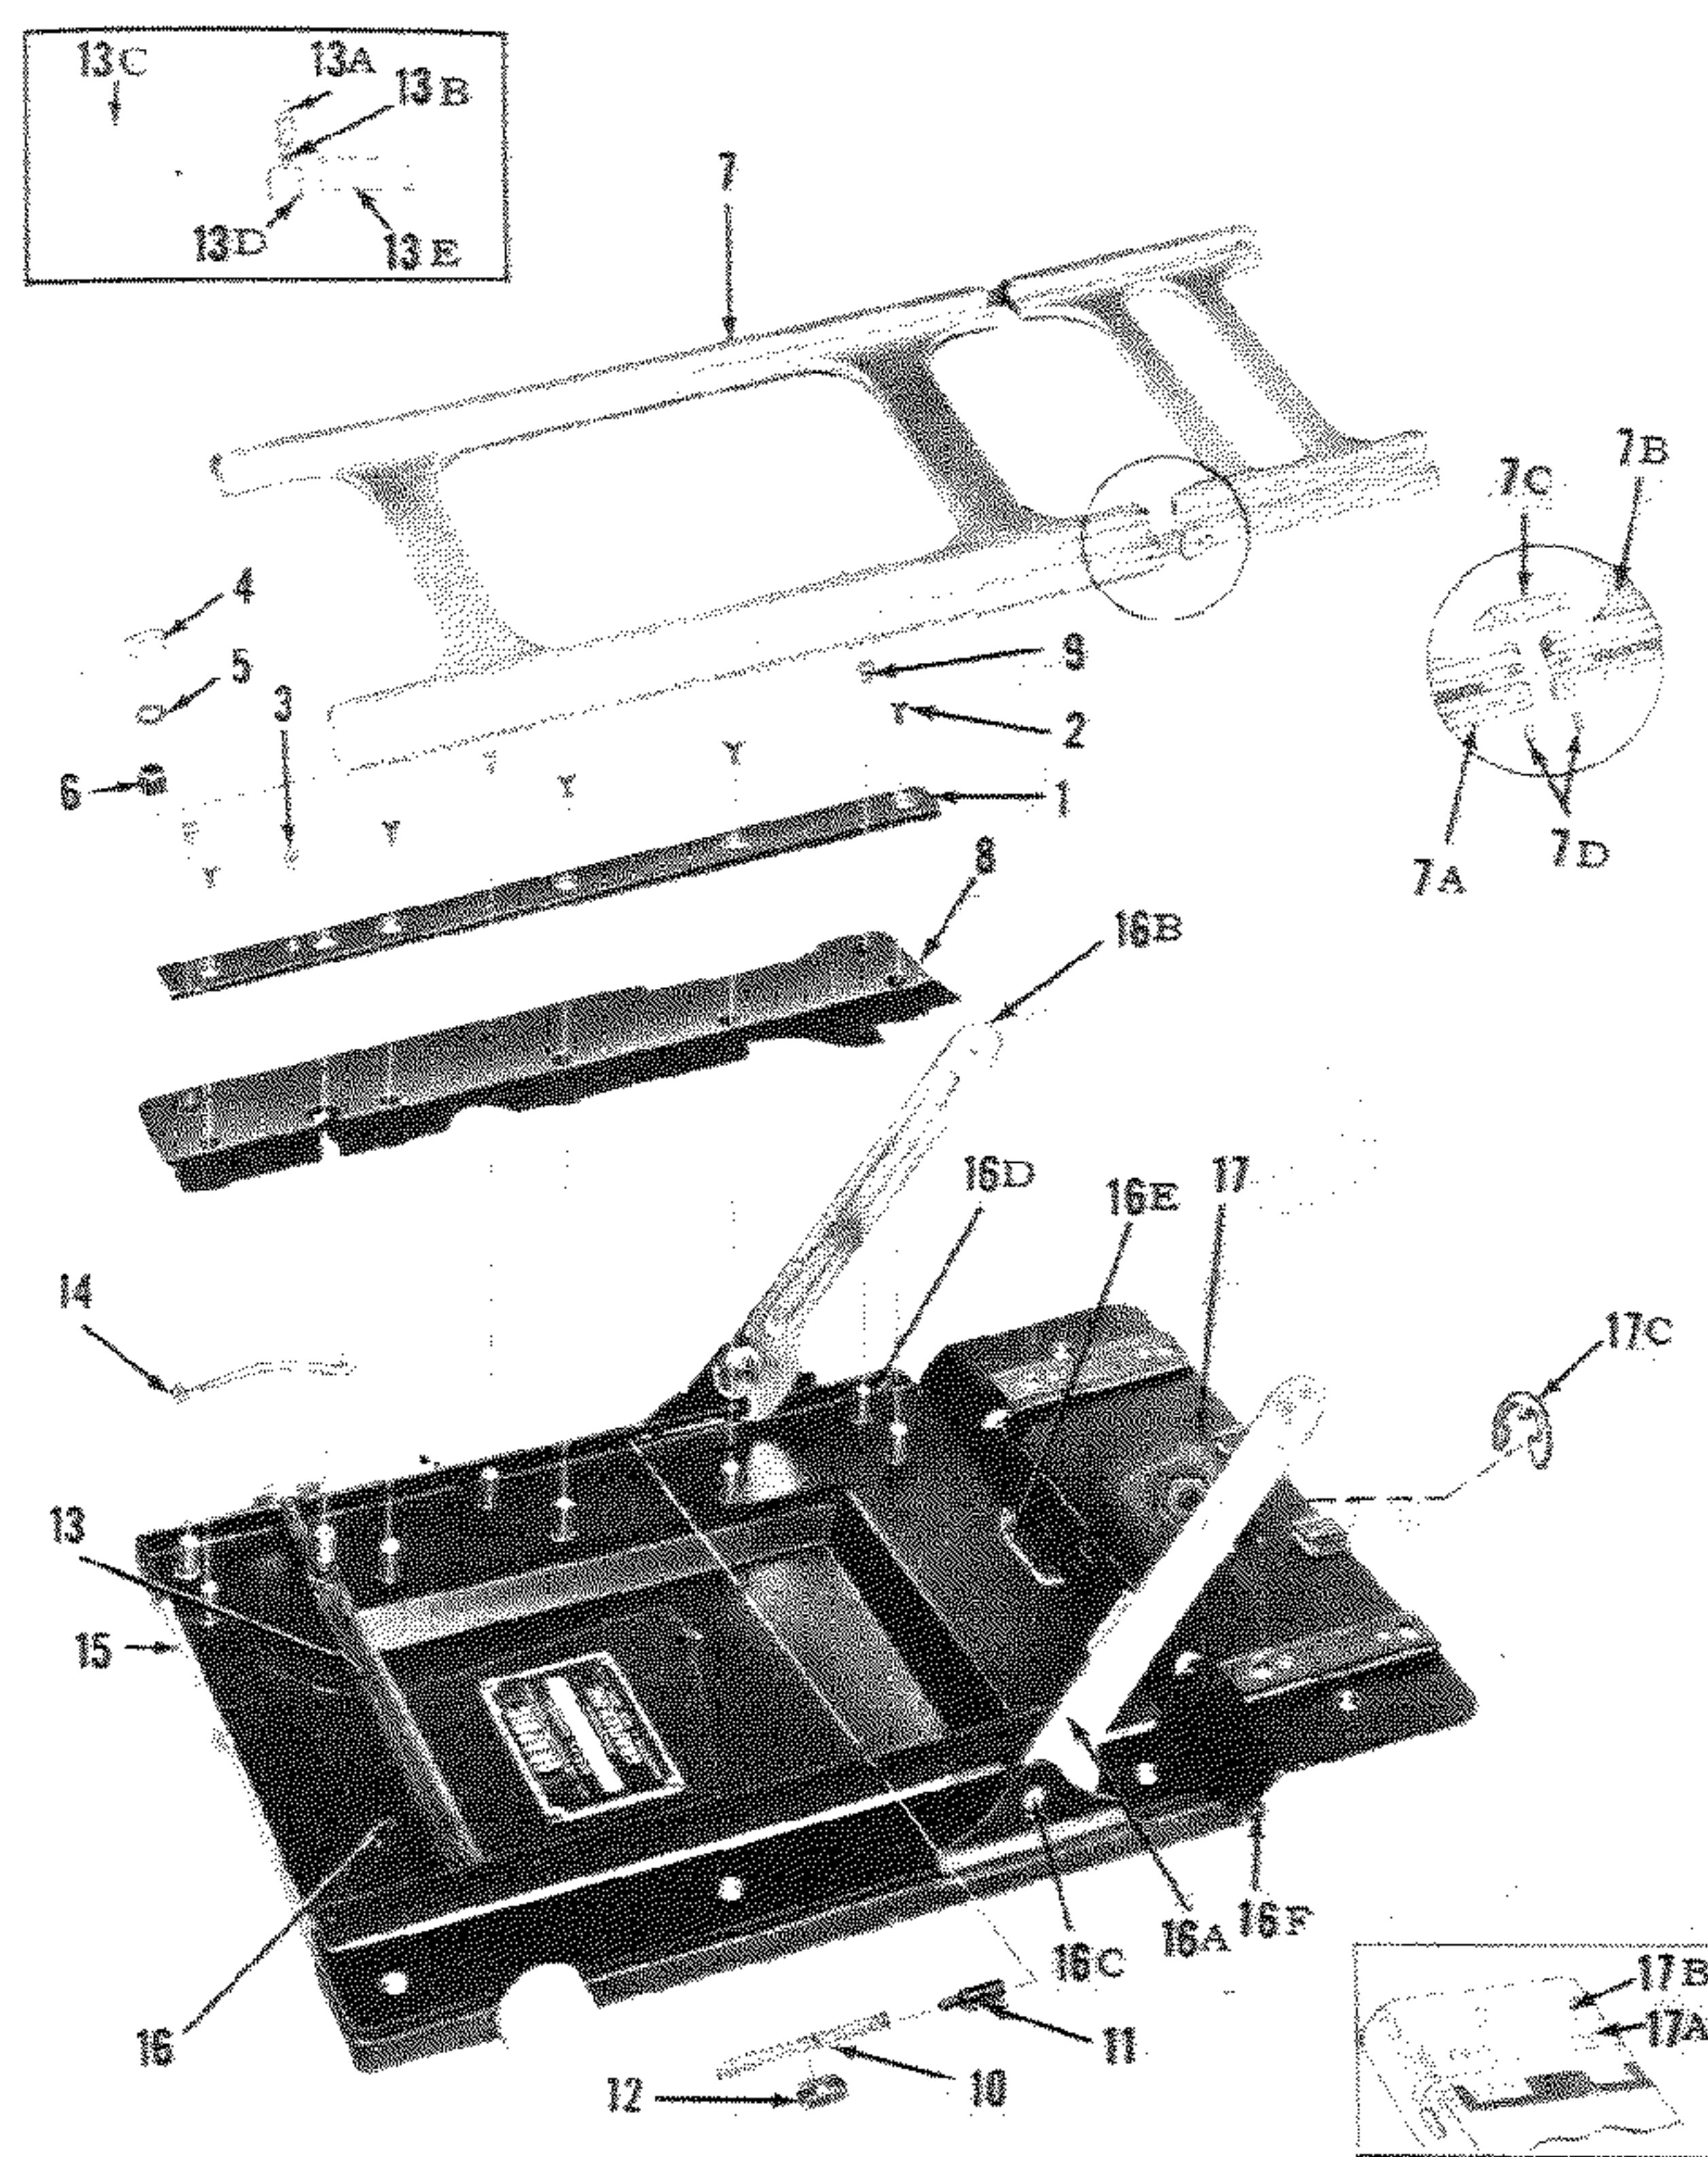
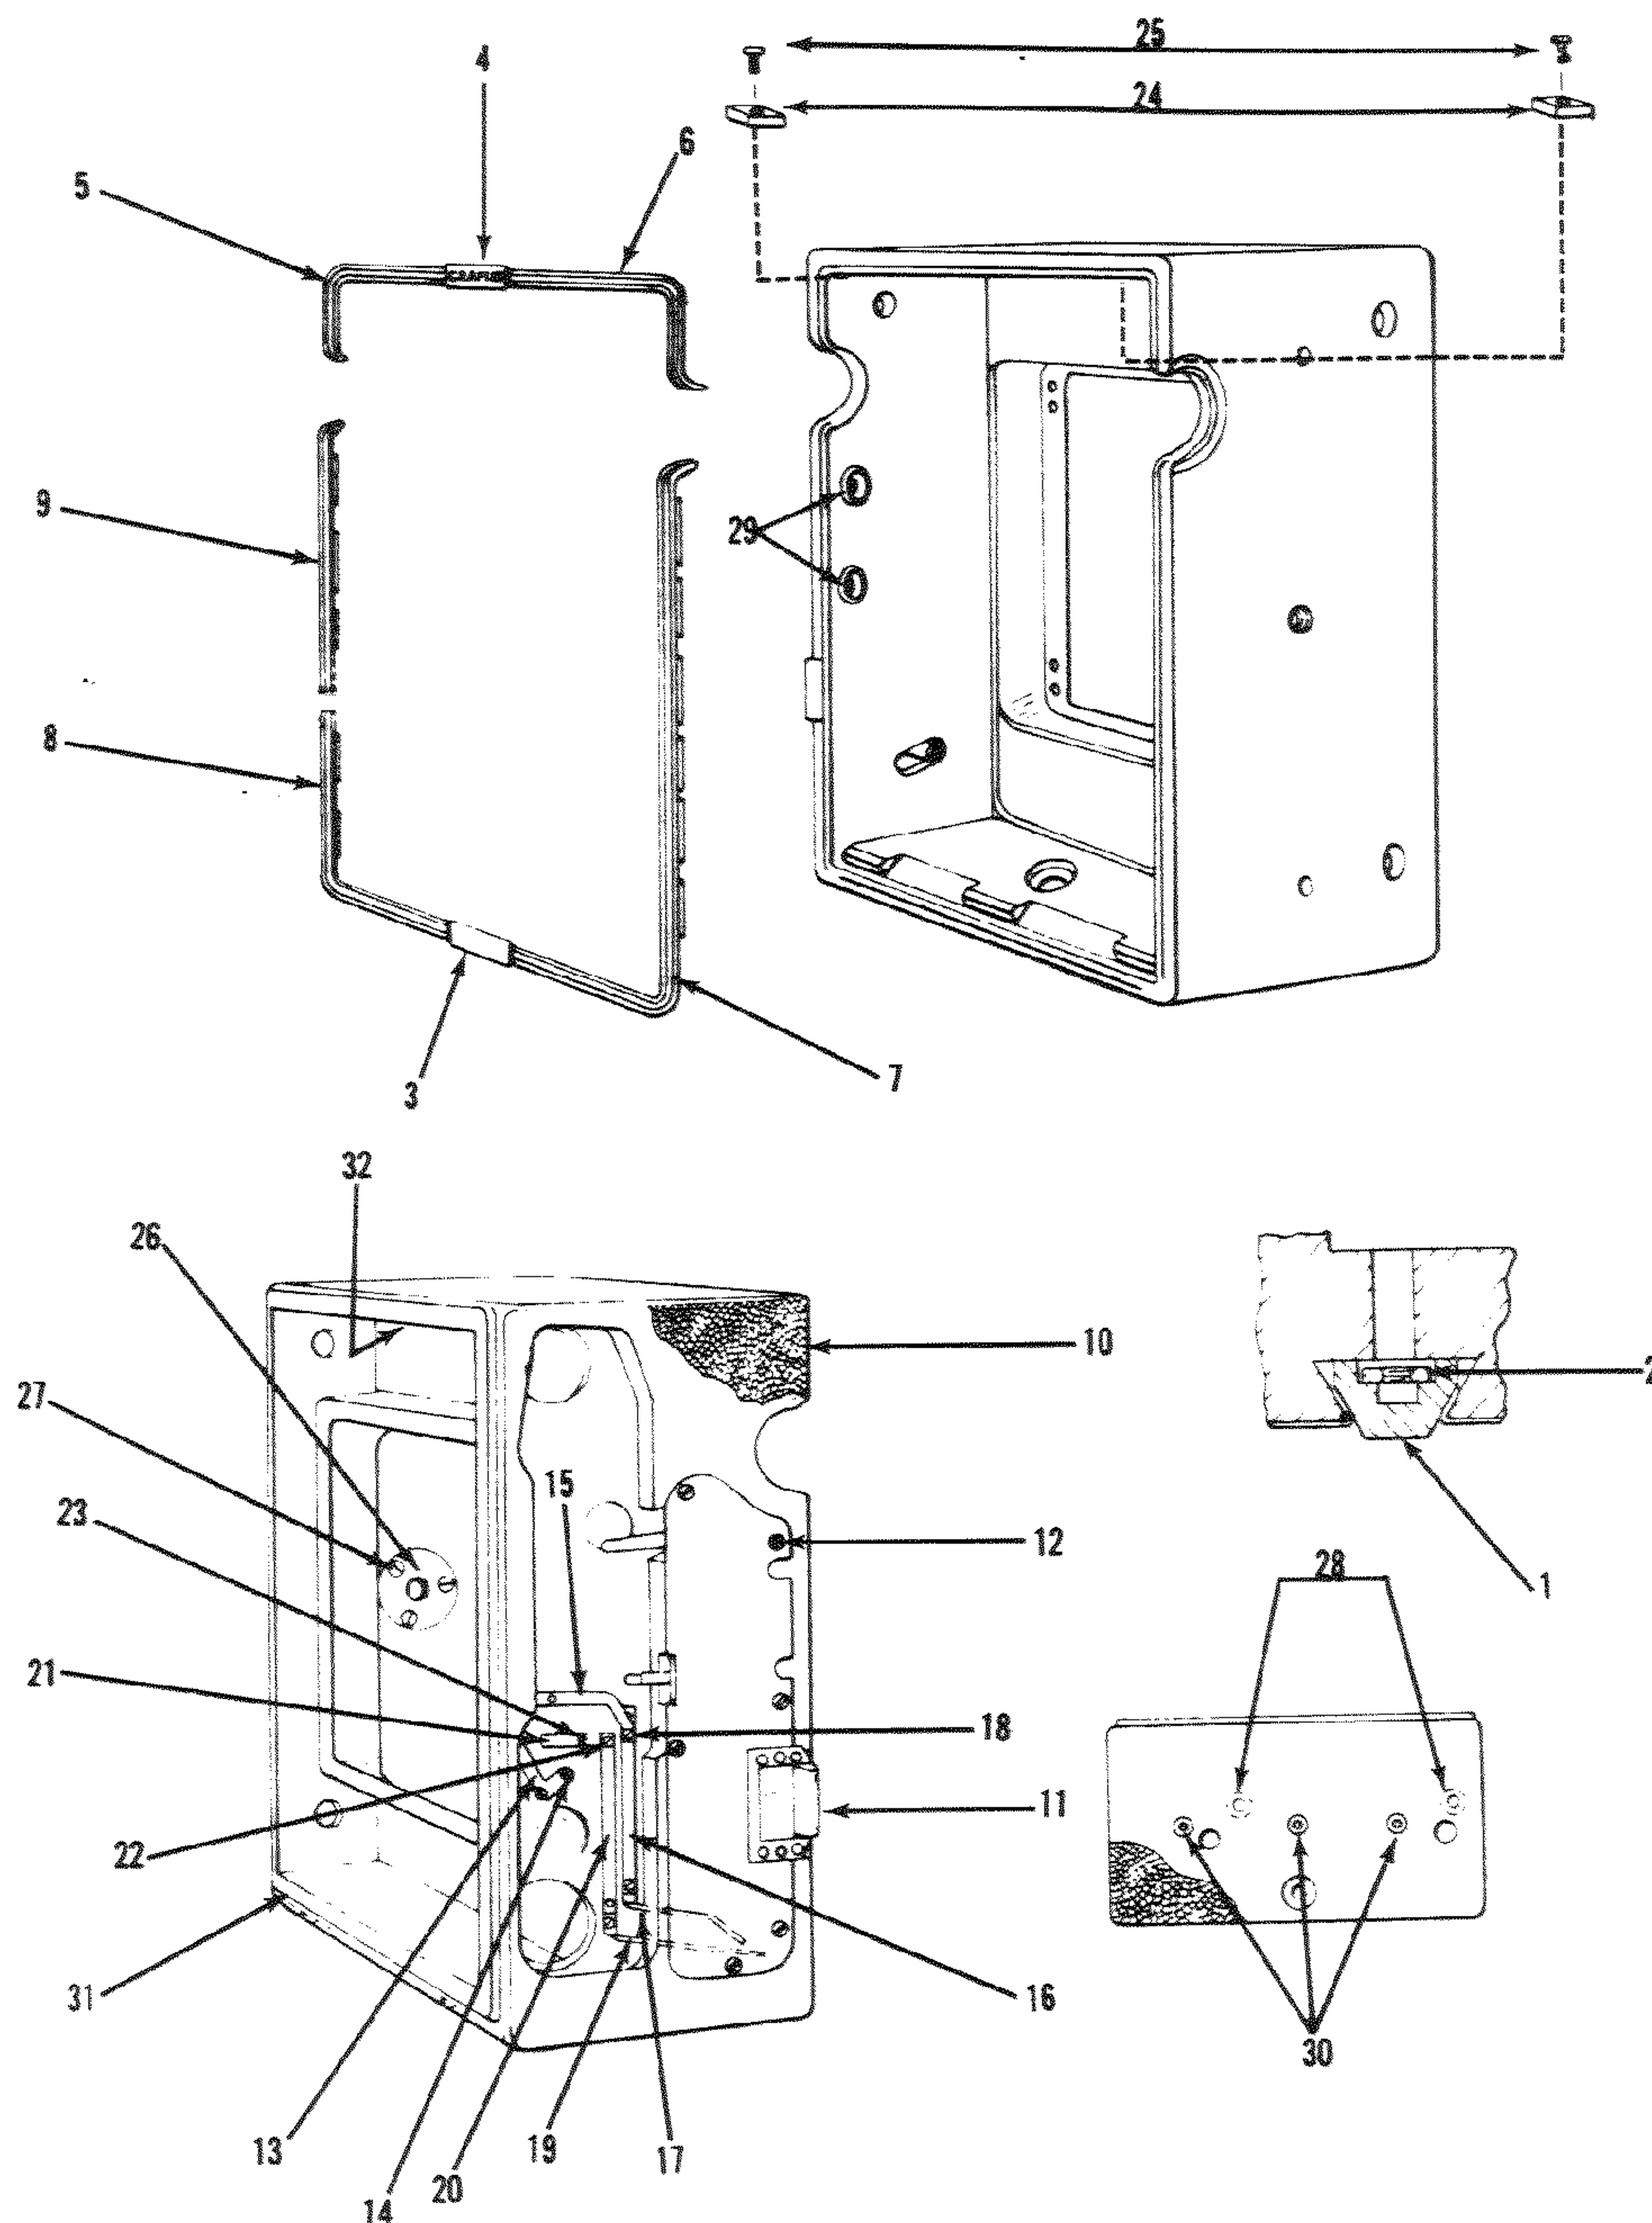

Figure 20. Bed Complete
Figure 21. BODY COMPLETE
Key to Figure 20.
c) From the bed hinge, remove two wood screws (38). Remove four yoke guide case screws (39) that are screwed into machine nuts (2, figure 21) located in the case feet (1).
- Remove the bed section guide (1, figure 20) by removing machine screws (2).
- Rack the yoke assembly (7) forward until the rear case yoke section is free of the hinge guides. Lift the yoke assembly (7) from the bed.
- Remove block screws (9, figure 20) from the bed block (8). When the bed block is lifted from its position care should be taken so that the bed brace spring (10) does not throw and lose the bed brace plunger (11).
- Swing the yoke lock lever (4, figure 20) clockwise so that the special fillister head screw (3) can be removed. Unscrew the yoke lock lever (4). Remove the flat washer (5) and the yoke lock sleeve (6).
- Lift the pinion assembly (13) from the bed. Do not lose the focusing pinion springs (14) at each side.
**NOTE:** Do not disassemble the yoke assembly (7), the pinion assembly (13), or the bed assembly (15).
a) The case section guide (17A, figure 20) should have the sliding grooves wiped with a film of the above lubricant.
b) Assemble the case section guide (17A) to the hinge assembly (17) by using two dowel pins (17B) in each guide.
Pinion assembly (13, figure 20) should be lubricated by wiping the small diameter of the shaft at each end with a reasonable amount being applied to the helical gear teeth.
The yoke assembly (7, figure 20) should have its guide edges wiped with lubricant and a reasonable amount applied to the gear teeth. Roll the yoke assembly (7) over the pinion assembly (13) to distribute the lubricant evenly and wipe off all excess.
a) To assemble the bed block (8, figure 20) insert the stud of bed brace plunger (11) into the bed brace spring into space provided on the under side of the bed block and hold in position by use of the spring retaining clip (12) that clips around the spring and over the rib on the bottom of the block. Check the position of the focusing pinion spring (14) so that it will fit in the block cavity that is provided. Lower the block into position over the guide and block screw bushings (16D). Be sure that the edge of the leather is tucked in between the block and the bed. Assemble three bed block screws (9).
a) Assemble the right bed section guide (1, figure 20) and attach with five machine screws (2).
b) Insert the yoke lock sleeve (6) and assemble the flat washer (5), if required. This flat washer is a spacer washer that may or may not be needed, depending on the position of the yoke lock lever when it is assembled.
c) Assemble the yoke lock lever (4) and tighten. Note the position and if the lever does not tighten in convenient position it should be removed and the thread started in a different position; it has a triple
d) After the yoke lock lever position has been found to be satisfactory, assemble the special fillister head screw (3).
b) Position the left bed section guide and assemble five machine screws (2, figure 20).
c) With the bed section guide screw (2) loosened on both sides, slide the yoke back so that the case section will partially engage in the case section guide (17A). This will center the front section in relation to the case section. Draw both bed section guides (1) together evenly with the fingers and tighten the guide screws (2) on both sides.
a) Place the bed in position in the camera case and reassemble four yoke guide case screws (39, figure 3) that are screwed into the machine nut (2, figure 21) located in the foot (1). Assemble two wood screws (38, figure 3).
b) Engage each bed brace (16A and 16B, figure 20) with its proper bed brace plate (34 and 35, figure 3). Allow the bed brace arm to slide freely in the slot and assemble the mounting screw in the old mounting hole.
c) Next check the top surface of the yoke assembly (7, figure 20). If the top surfaces of the yoke guide are not level, the front standard will not slide smoothly on the yoke. If necessary, shim the case section guide as follows:
1. Remove the release slide plate (11, figure 21).
2. Remove the right focusing knob escutcheon (51, figure 3) that is held by escutcheon pin (52). Pry up the right moulding (9, figure 21) and the right edge of the lower right moulding (8).
6. Remove six wood screws (12, figure 21) that secure the body release plate assembly (11), and remove the plate assembly.
2. Inspect the short and long switch contacts (17 and 19, figure 21). These contacts complete the focal plane synchronization circuit and are closed by pressure action of the long lever inside the plate that has the insulated spring terminal bushing. If this insulated bushing has become worn so that the lever might make contact with the short switch contact (17) the body release plate assembly (11) must be replaced.
1. Position the body release plate assembly (11, figure 21) and assemble six wood screws (12).
1. To remove the side tripod socket (26, figure 21) it is first necessary to remove the right bed brace plate (35, figure 3) as described in paragraph V.B.2. Remove the three flat head wood screws (27 figure 21) securing the tripod socket.
Key to figure 21.